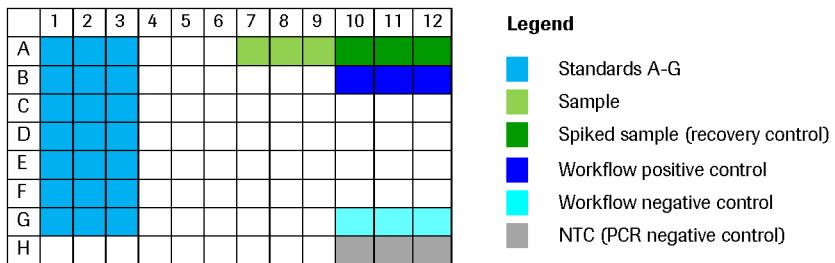

Fig. 2: Plate configuration proposal for one sample.
Figure 2 illustrates an example of a plate setup for only one sample, including all standards and controls. For accurate quantitative results, run triplicates for each PCR. Always run negative controls (NTC). To prepare a negative control (NTC), replace the template DNA with PCR Negative Control (Vial 7).
- ⑧ Keep Vial 6 away from light. Do not touch the surface of the LightCycler® 480 Multiwell Plate during handling.
- ① Perform laminar flow hood cleaning (using bleach, then ethanol or other disinfectant reagents) in the master mix room.
- ② Wipe pipetting tools with 10% bleach followed by 70% ethanol or other disinfectants. Wipe all other items with 70% ethanol before bringing into the hood.
- ③ Place the reagents (see Step 6) in a laminar flow hood, and let them thaw at room temperature (+15 to +25°C).
- ④ Vortex and spin down briefly before opening.
- ⑤ Change tip after each pipetting step.
- ⑥ For the plate setup (Figure 2), prepare the master mix for 38 PCR reactions according to the table below. Use nuclease-free, DNA-free vials.